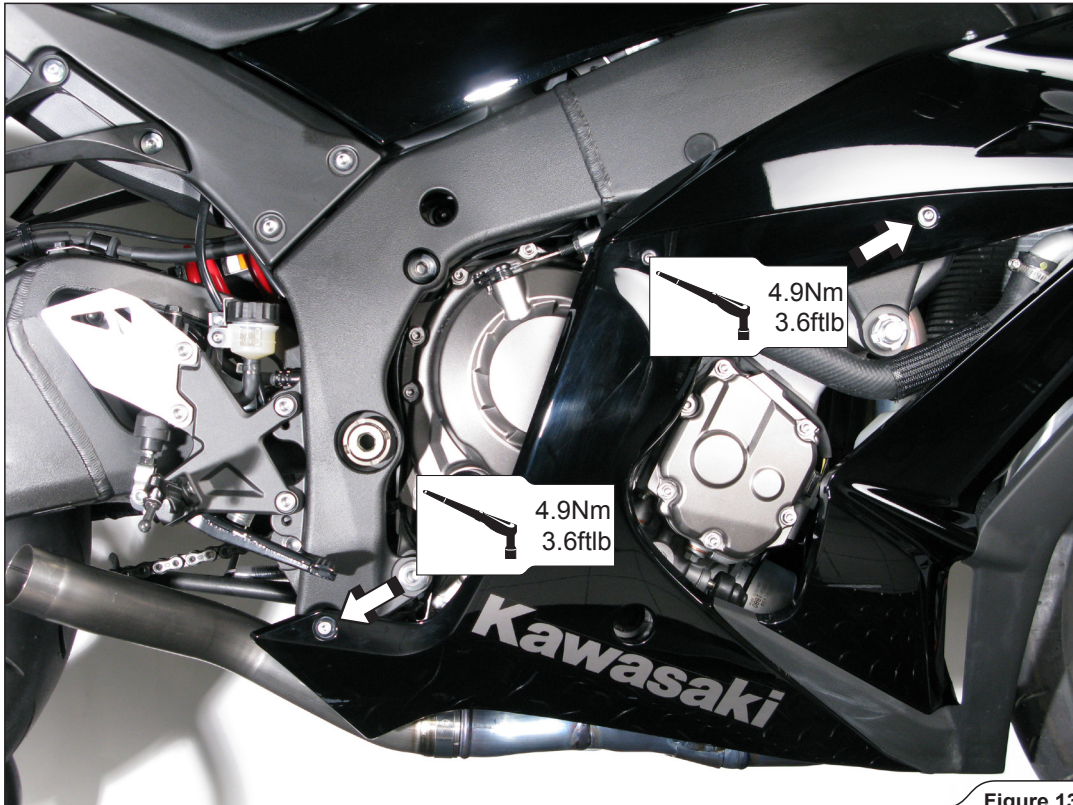

Figure 13
5. **For optional link pipe only:** reinstall the engine cowling, seats and seat cowling in reverse order in which they were removed (Figure 13, 14, 15).